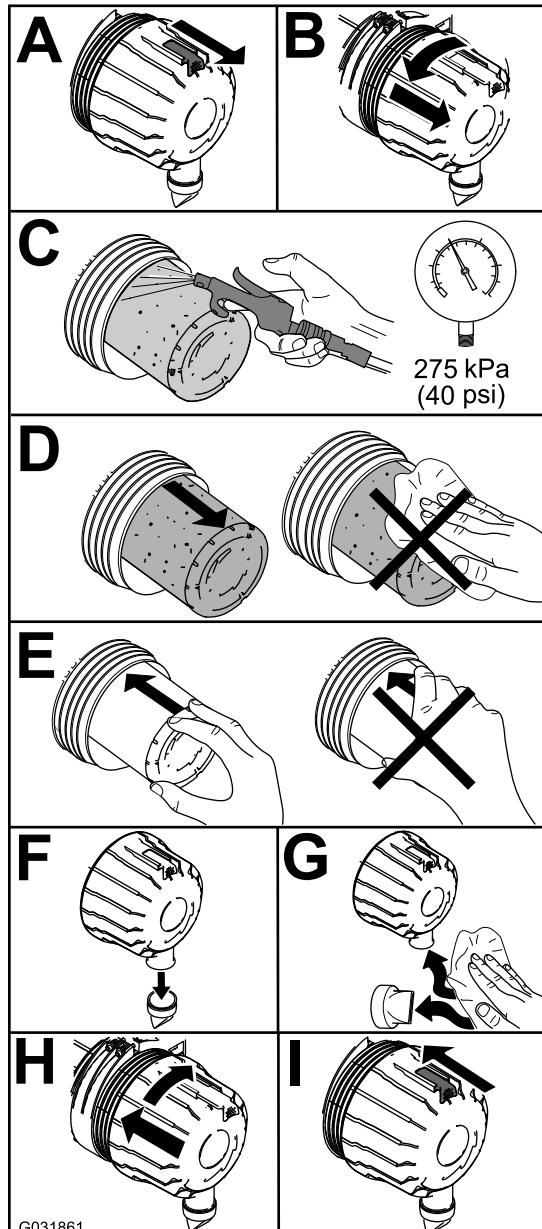

Figure 68
1. Replace the air cleaner (Figure 68).